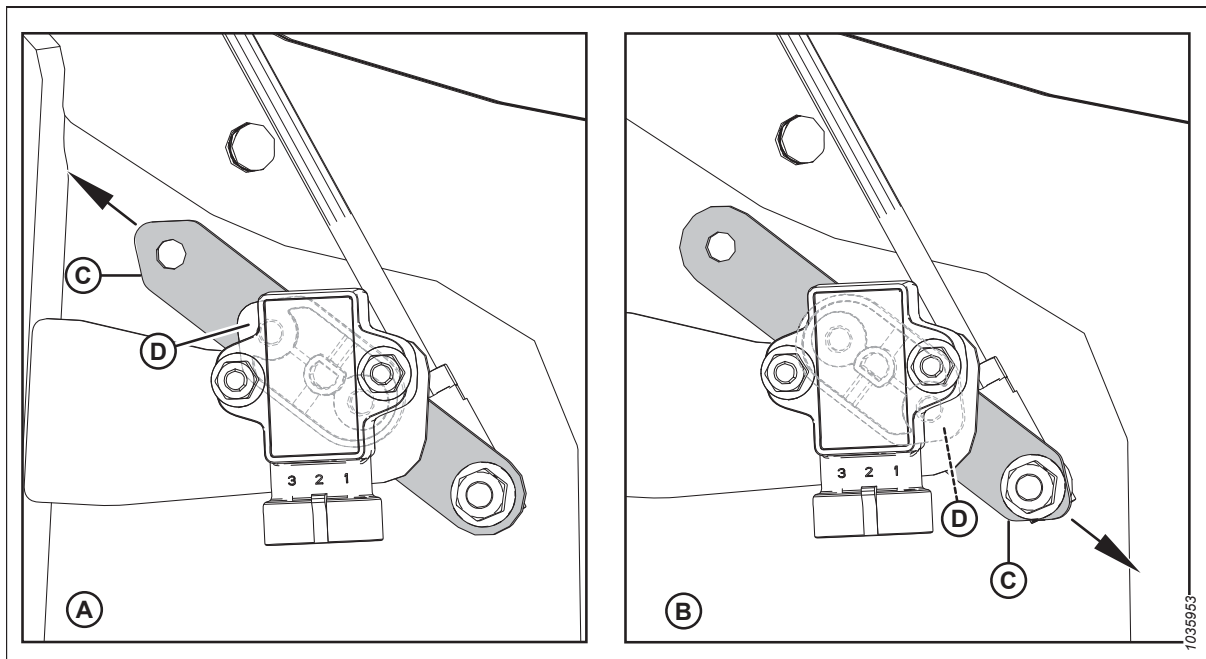

Figure 3.189: Sensor Arm/Pointer Configurations
5. Ensure that sensor arm (C) and pointer (D) are configured properly for the header. For instructions, refer to Figure 3.189, page 163.